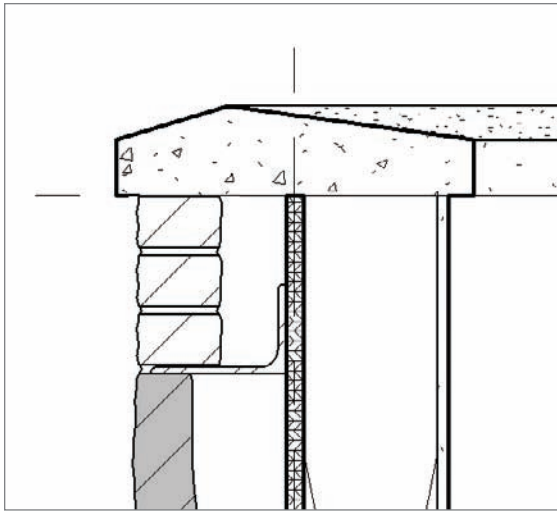

FIGURE 12.38 The angle in place and looking like an angle
9. Adjust the angle so it looks like Figure 12.38.